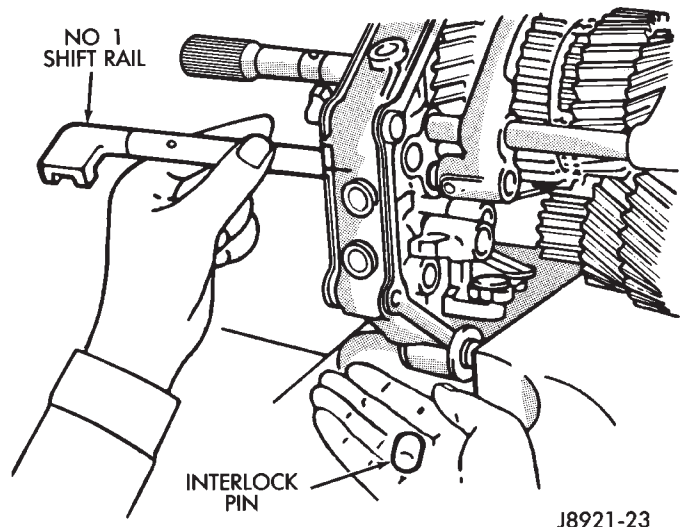

Fig. 15 Removing No. 1 Shift Rail And Interlock Pin
(9) Remove No. 1 shift rail and interlock pin (Fig. 15).